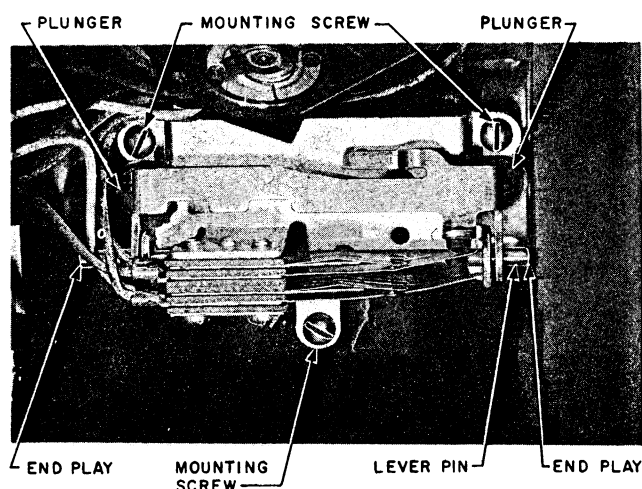

Fig. 1 — Plunger Assembly
- If plungers bind or squeak, open set and check for sticky plungers or lever pin or lack of end play in the set (see Fig. 1).